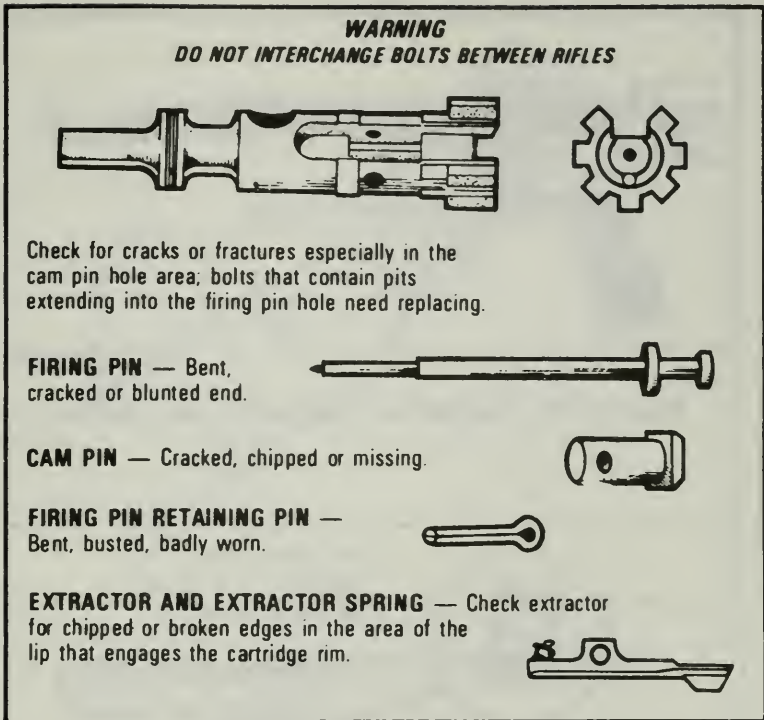

Figure 70. Inspecting the bolt assembly.
(1) Clean and lightly lubricate with CLP the lugs in the barrel extension, bore, and chamber.
(2) Clean and lightly lubricate the bolt carrier.
(3) Lubricate the slide cam pin area, piston rings, outside the bolt body, and inside the bolt carrier key.
4. Inspect your rifle before assembly (Figure 70).